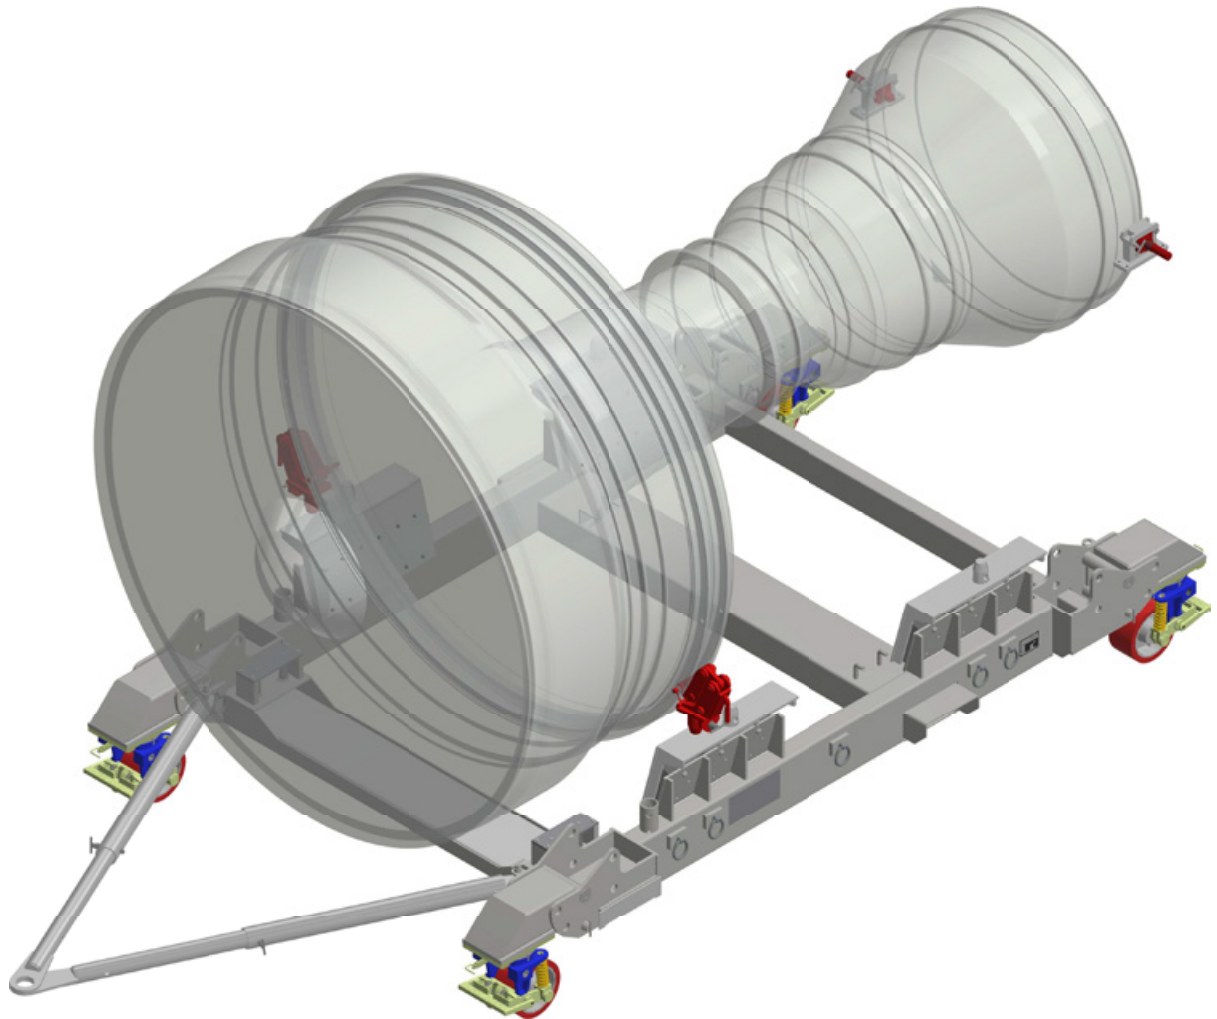

Figure 4.5-4
7). Lower and adjust the engine guiding the aft pin adapter V-Blocks into the V-Shaped support saddles first. Once aligned while lowering the engine guide the forward daggers into the sockets of the cradle. Continue lowering the engine until all adapters are installed and supporting some of the engine weight. Figure 4.5-4.